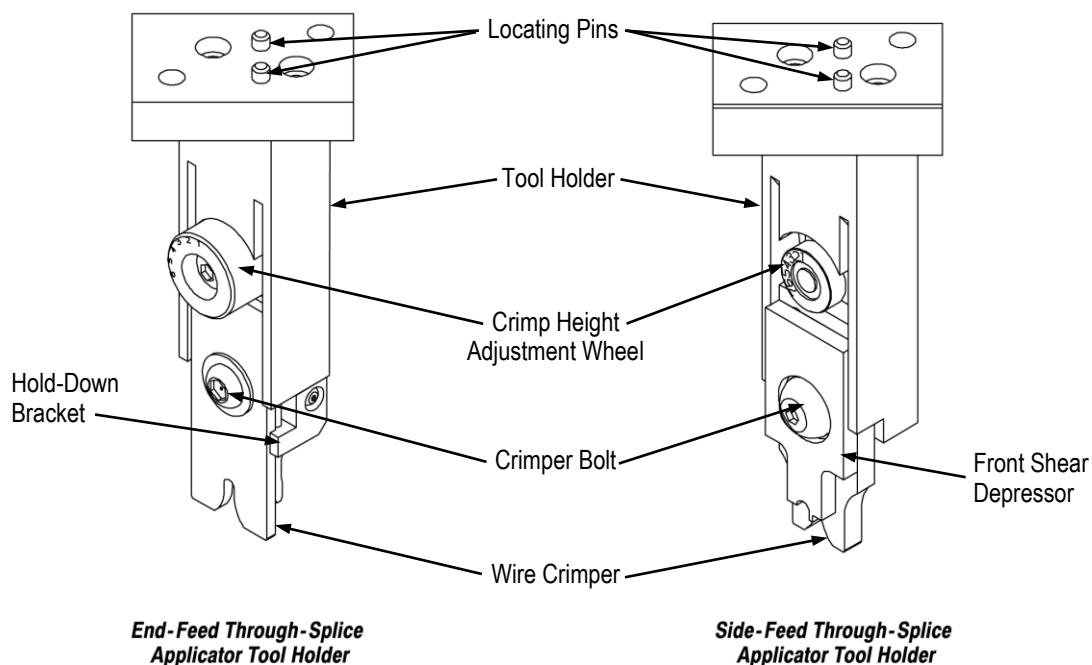

Figure 4
The tool holder is secured to the ram of the G II Through-Splice Terminating Machine with two screws. The tool holder contains locating pins (Figure 4) to facilitate its location on the terminator ram. The locating pins allow an easier tooling changeover.
The hold-down bracket (see Figure 4) is attached to the ram and, with bracket attached, holds the terminal in place during the crimping and shearing process.
1. Position the tool holder on the bottom of the terminator ram using the two locating pins shown in Figure 4.